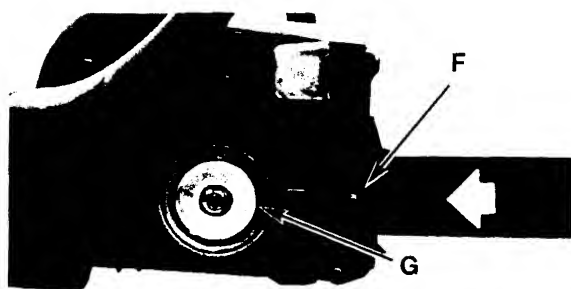

Fig. 19
3. Place the slotted end of the guide bar over the bar bolt (F). Slide guide bar behind clutch drum (G) until the guide bar stops (Fig. 19).